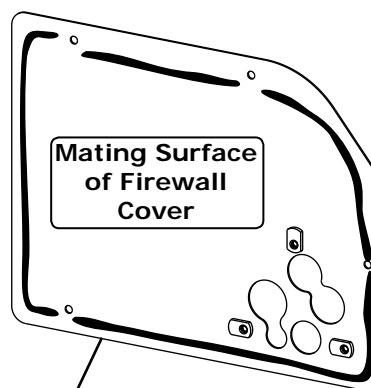

Figure 1
4. Apply a bead of silicone to the mating surface of the firewall and firewall cover (See Figure 1, below).
5. Route the #10 and #6 A/C hoses through the firewall cover. Install the firewall cover over the (3) 1/4-20 x 1 1/2" studs (See Photo 4, below). **NOTE: Temporarily remove the service port cap on the #10 A/C hose to route through the firewall cover. Reinstall the cap after installation to avoid contaminants.**